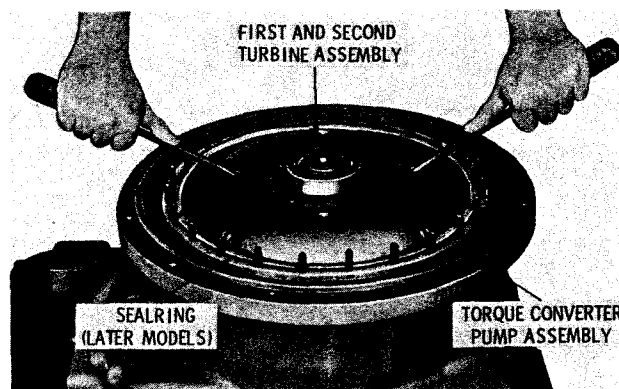

Fig. 5-11. Removing first-and-second turbine assembly
(1) Using two screwdrivers, lift upward and remove the first-and-second turbine assembly as a unit (fig. 5-11). Refer to paragraph 6-6 for rebuild of the turbine assembly.